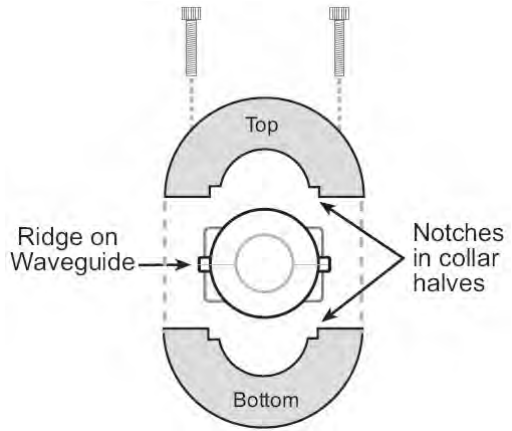

Figure 19: Securing the waveguide collar
3. Reseat the waveguide with the TRIA and reassemble the collar. When properly installed, both halves of the collar should join along the ridges on opposite sides of the waveguide as shown in Figure 19. Each half of the collar is notched to fit securely over the waveguide ridge.